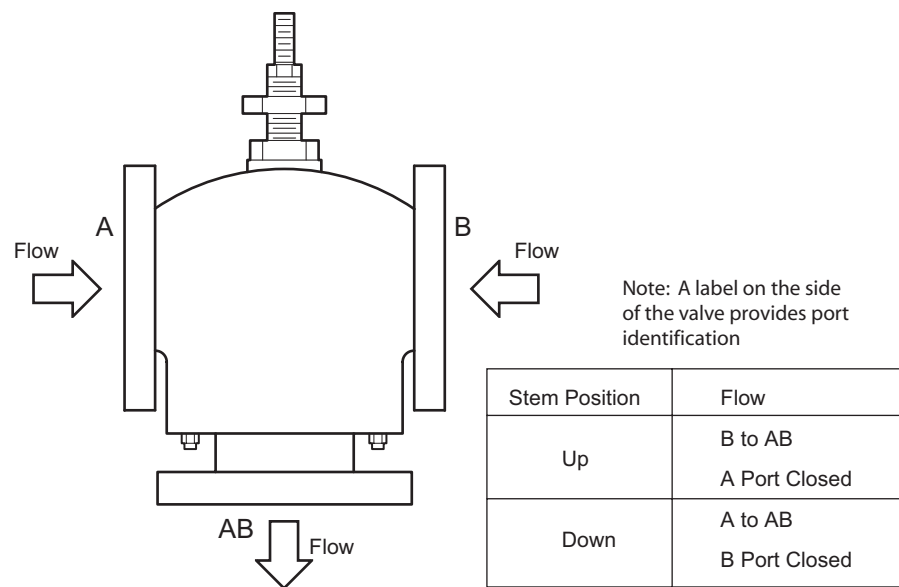
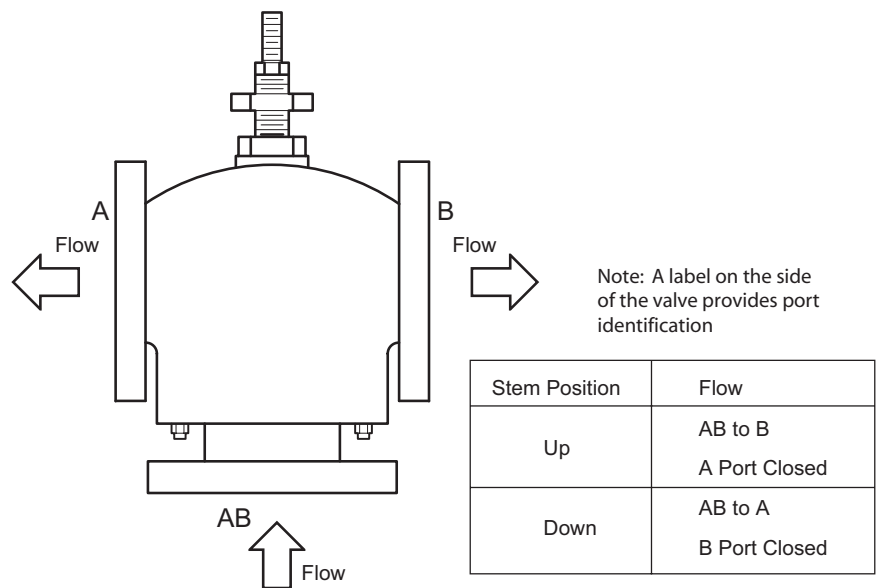

Figure-3 VB-8303 Piped as Mixing Valve
Figure-4 VB-8303 Piped as Diverting Valve
- Install the valve with the flow in the proper direction. See Figure-3 and Figure-4.
3. Pipe the valves with two inlets ("A" and "B" ports) and one outlet ("AB" port) for mixing applications. Pipe with one inlet ("AB") and two outlets ("A" and "B") for diverting applications. See Figure-3 and Figure-4.
- a. Drive the actuator and run the valve to the stem down position. Make sure the linkage and valve stem move freely. Consult Figure-3 (mixing) or Figure-4 (diverting) for proper flow in the stem down position.
- b. Drive the actuator and valve to the stem up position. Again, the valve stem and linkage should operate smoothly. Consult Figure-3 (mixing) or Figure-4 (diverting) for proper flow in the stem up position. After the valve linkage and the actuator are installed, check their operation.